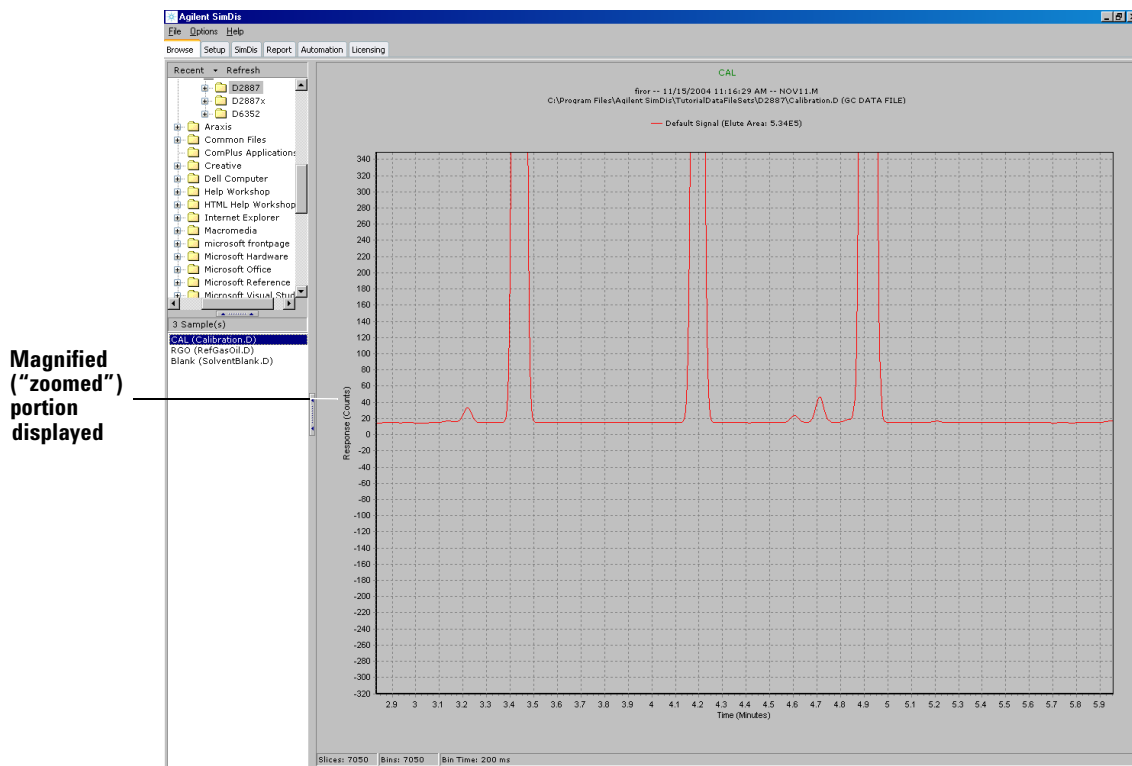

Figure 8 “Zoomed” (magnified) portion of the chromatogram
- 4 Upon releasing the mouse button, the display immediately refreshes showing the now-zoomed portion (Figure 8).